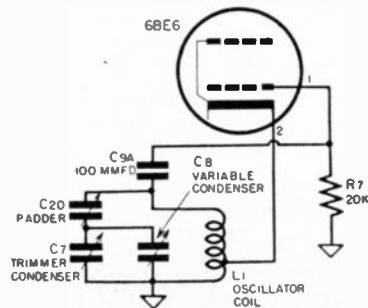

Fig. 8-31. Oscillator circuit.
h) *Oscillator Circuit.* See Figure 8-31.